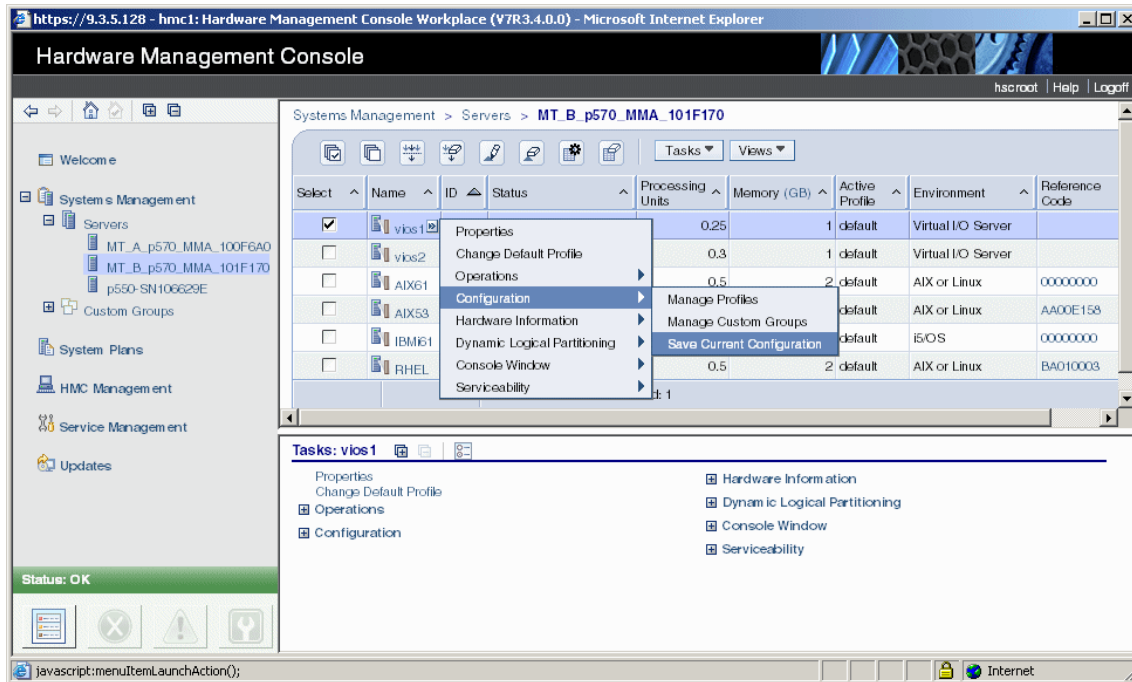

Figure 2-32 Save the Virtual I/O Server partition configuration.
- f. Remember to update the profile of the Virtual I/O Server partition for the change to be reflected across restarts of the partitions. Alternatively, use the **Configuration** → **Save Current Configuration** option to save the changes to the new profile. See Figure 2-32.